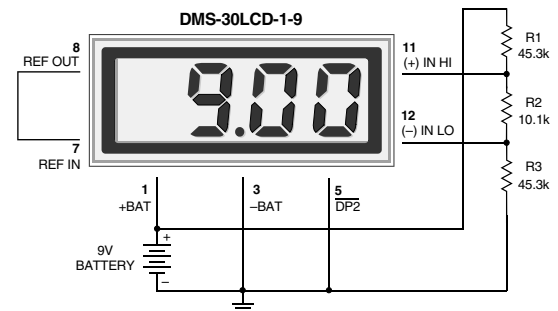

Figure 8. Power Supply Monitor
6. **Power Supply Monitoring:** A popular application for DATEL's low-power LCD meters is monitoring the supply voltage in battery-operated portable equipment. Figure 8 demonstrates how a 9V-powered DMS-30LCD can be used to monitor its own supply. The meter used is the DMS-30LCD-1-9. A three-resistor voltage divider is used to attenuate the battery voltage and also to satisfy the requirement that the input voltages applied to pins 12 and 11 be at least 1.5 Volts above and below the battery voltage applied to pins 1 (+BATTERY) and 3 (-BATTERY). The divider should be designed so that 1/10th the battery voltage falls across the inputs to the meter: